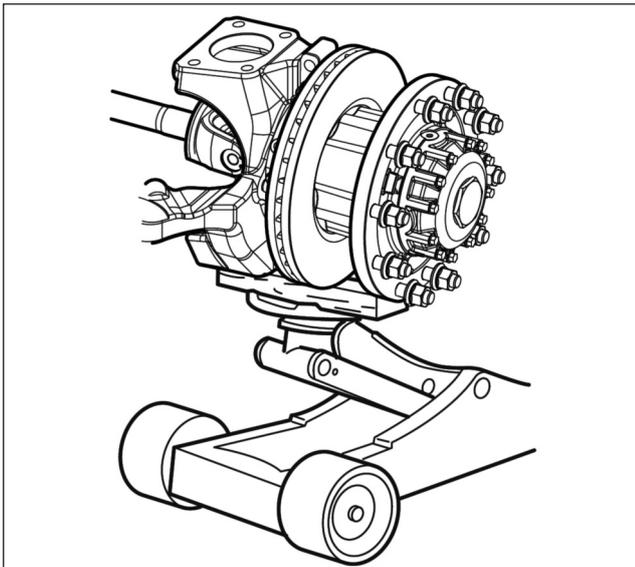

Fig. 4.10
1. When the wheel end and front axle shaft is in on an appropriate lifting device it's possible to proceed with the maintenance of the axle shaft. - Fig. 4.10